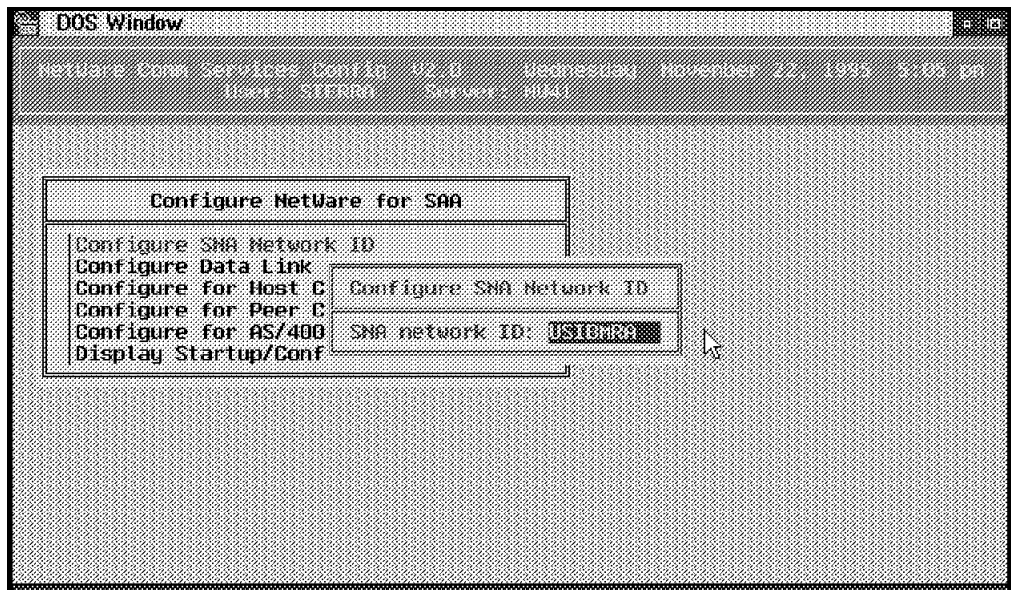

Figure 206. Configuring SNA NetWork ID
5. Select **Configure SNA NetWork ID** and fill in the prompted field with your NetWork ID, as shown in Figure 206.